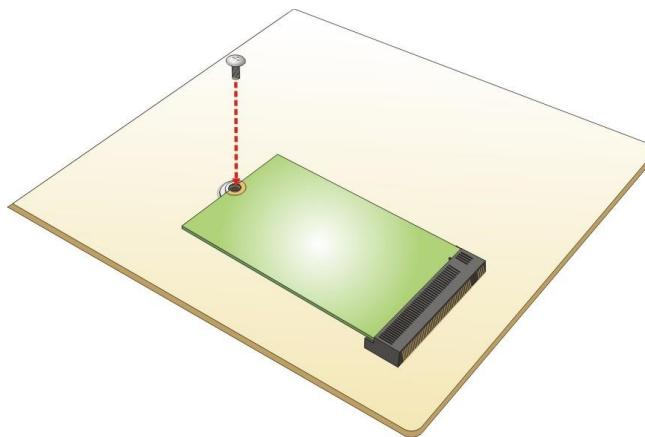

Figure 3-3: Securing the M.2 Module
Step 4: Secure the M.2 module with the previously removed retention screw (**Figure 3-3**).